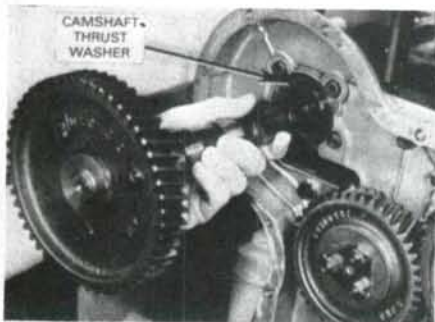

Fig. 65—Camshaft and timing gear may be withdrawn as a unit as shown, refer to text.
**59.** To remove the camshaft, first remove timing gear cover as outlined in paragraph 51, then remove fuel tank, rocker arm cover and rocker arm assembly. Secure the valve tappets (cam followers) in the uppermost position, remove the fuel lift pump, then withdraw camshaft and gear as a unit as shown in Fig. 65.